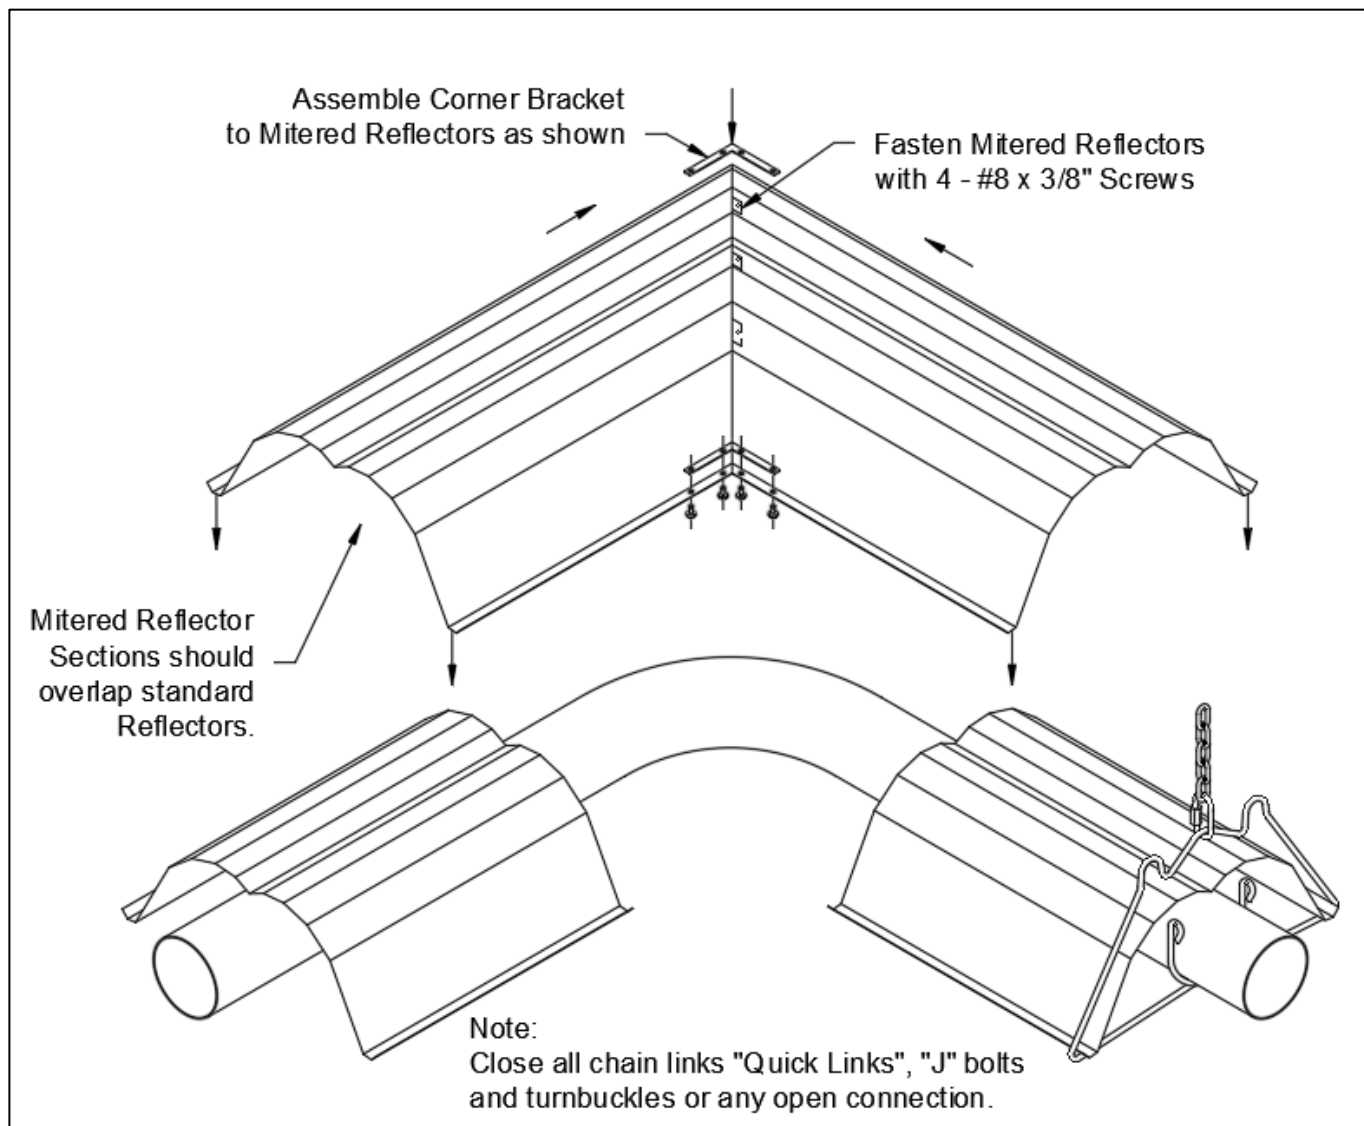

Figure 22: Mitered Reflector Installation
**Note:** Elbows or U-tubes are typically installed without reflectors. To reduce the above clearance to combustibles distance use miter reflectors (see Figure 22) and refer to Clearance to Combustibles information.
- If used, install the Mitered Reflector as shown below (Figure 22).